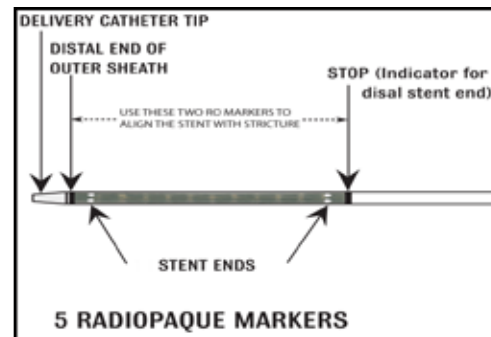
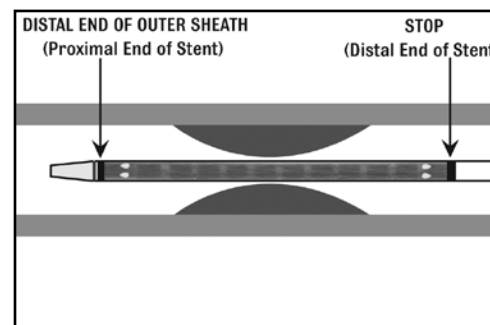

Figure 2. There are 5 radiopaque regions present on the ALIMAXX-B™ Biliary Stent System.
Figure 7. Using radiopaque markers as a guide, position the stent across the stricture.
- Use the 5 radiopaque markers on the device as a guide (Figure 2 and Figure 7) when positioning the stent across the stricture. Radioscopic visualization is required for accurate stent placement.
- Stent is located between radiopaque marker band at distal end of the outer sheath and stent STOP (Figure 2). Center the stent at the stricture (Figure 7). Position the ends of the loaded stent at least 10-20 mm proximal and distal to the margins of the stricture.